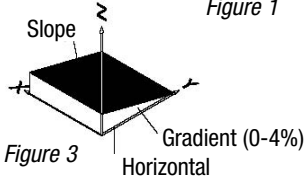

Figure 3
5. Select your required working state and start operation (fig. 3).